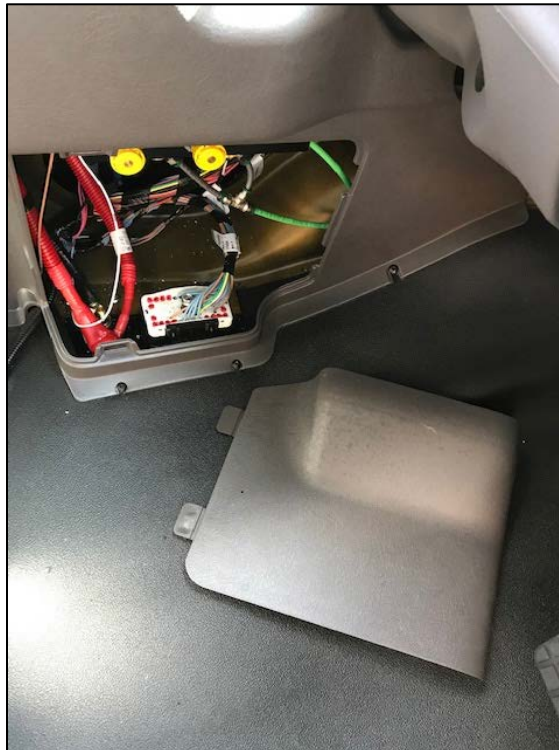

Figure 1: Kick Panel Removed
2. Remove the kick panel to the left of the driver's feet and set aside. See **Figure 1**.